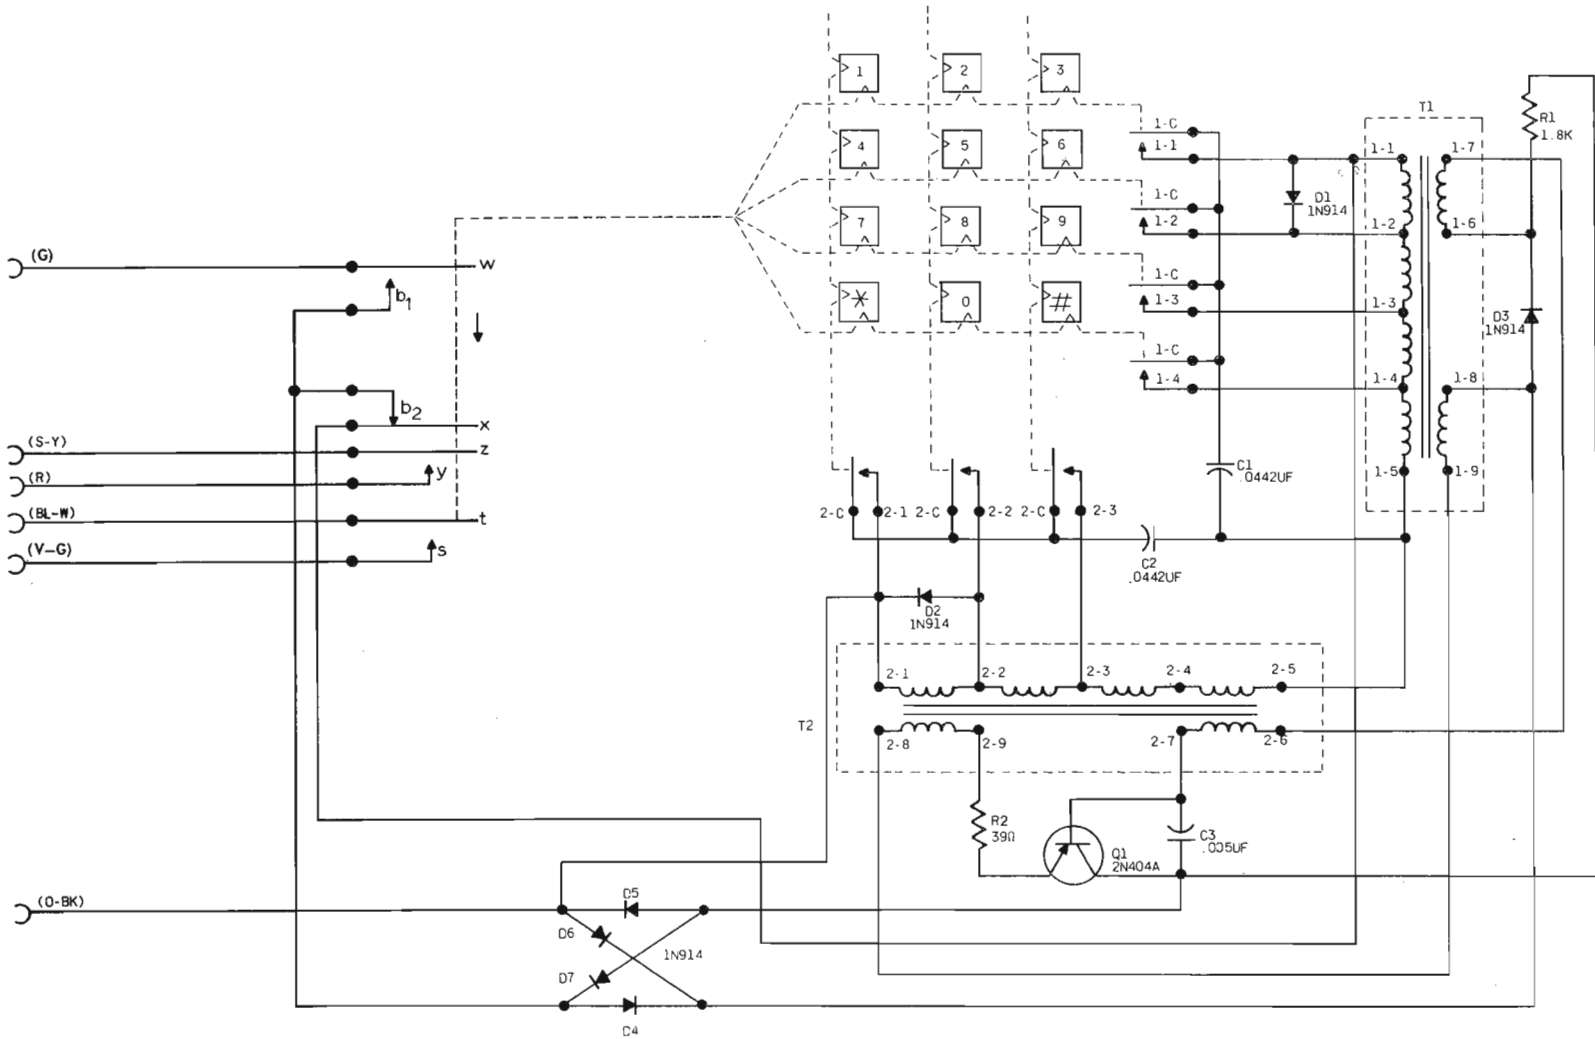

Fig. 17 - NE-35Q3F1 Dial Schematic
- Fig. 17 – NE-35Q3F1 Dial Schematic